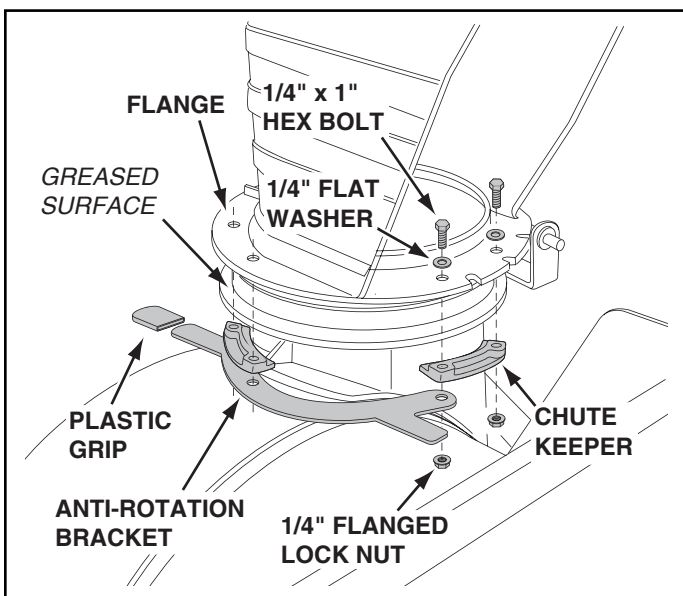

FIGURE 19
- Coat the top of the ring around the discharge opening with general purpose grease. See figure 19.
- Attach the three chute keepers (right side up as shown in figure 19) and the anti-rotation bracket to the bottom of the chute flange. Use six 1/4" x 1" hex bolts, 1/4" flat washers and 1/4" flanged lock nuts. **Tighten carefully** so that the plastic parts are not deformed. See figure 19.
- Place the plastic grip onto the back end of the anti-rotation bracket. See figure 19.
- Position the chute crank assembly so that the crank rod spiral does not rub the bottoms of the notches in the chute flange and then **tighten** the nuts left loose in figure 19.